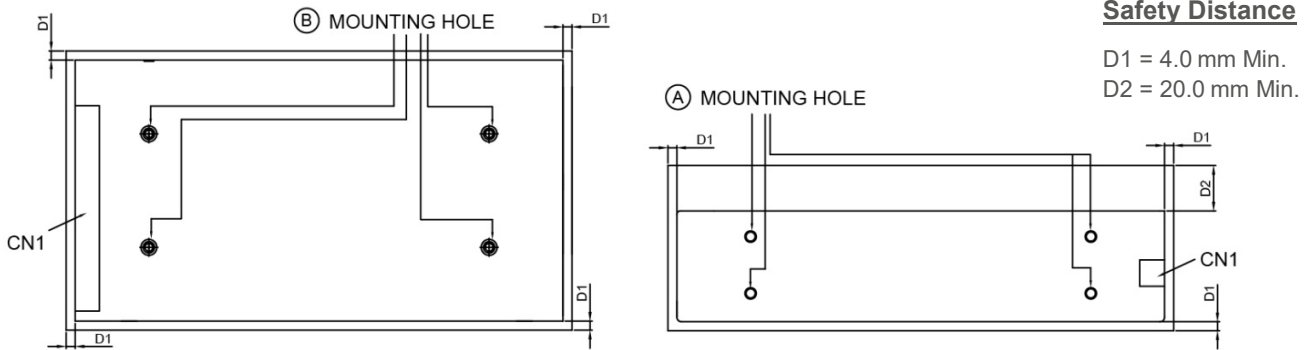

Fig. 3 Mounting Hole Locations and the Safety Distance
- Ⓐ Side Mounting: Fig. 2 and Fig. 3 show the mounting hole locations for power supply assembly onto a metal mounting surface. The power supply shall be mounted on minimum of 4 mounting holes using M4 screw of maximum 5 mm (0.20 inch) length (Refer to Fig. 4). This is to maintain a safety distance between the screw and internal components.
- Ⓑ Base Mounting: Fig. 2 and Fig. 3 show the mounting hole locations for power supply assembly onto a metal mounting surface. The power supply shall be mounted on minimum of 4 mounting holes using M4 screw of maximum 4 mm (0.16 inch) length (Refer to Fig. 4). This is to maintain a safety distance between the screw and internal components.